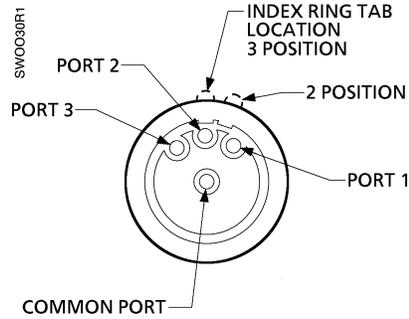

Figure 1. Selector Switch Ports.
NOTE: Insert the provided tubing connectors into ports on the back of the switch body. See Figure 1.
6. Pipe the selector switch noting that the center port is the common port (Figure 1).
2. Insert the provided tubing connectors into ports on the back of the switch body. See Figure 1.
6. Attach the tubing to the appropriate ports. The center port is the common port. See Figure 1.